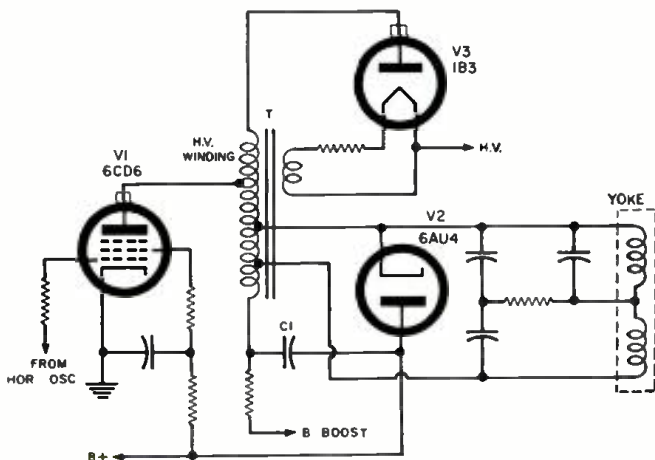

Fig. 1. Wide-angle TV sets of modern design typically use horizontal-output circuits, like the one shown here, with an autotransformer.
The typical horizontal-output circuit shown in Fig. 1 is reduced to a simplified form in Fig. 2. In the latter, the horizontal-output transformer (T) is shown without added windings for high-voltage supply, a.g.c., phase comparison, or other purposes, while a capacitor (C1) is added to represent the shunt capacitance due to the windings of the transformer. In conformity with modern design practice, the yoke is shown connected across a part of the transformer winding, rather than being in series with the transformer (direct drive) or being connected to a separate secondary winding, as in many older designs. The 6AU4 damper tube is seen to be in series with the transformer and boost capacitor (C1); while the 6CD6 output tube, the output transformer, the boost capacitor, and "B+" supply form an additional series circuit.
A horizontal-output system bears more resemblance to a pulse circuit, in which the tubes are only required either to conduct fully or to cut off, than it does to the many familiar circuits where the output current follows slight variations of input (grid) voltage. For this reason, it is convenient to regard both output and damper tubes as high-speed switches. This is shown in the equivalent circuits of Fig. 3. Switch  $S_1$ , representing the 6CD6 of Figs. 1 and 2, is shown closed when the drive voltage to the grid is positive, and open when the tube is cut off by a negative grid voltage.  $S_2$ , representing the 6AU4 damper tube, is closed when its cathode voltage is negative with respect to its plate. When this tube is cut off by a cathode voltage that is positive with respect to the plate,  $S_2$  is shown open.